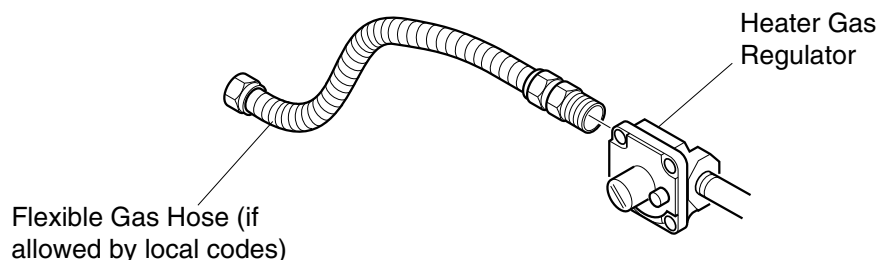

Figure 11 - Attaching Flexible Gas Hose to Heater Gas Regulator
1. Apply pipe joint sealant lightly to male threads of gas regulator. Connect approved flexible gas hose to gas regulator of heater (see Figure 11).